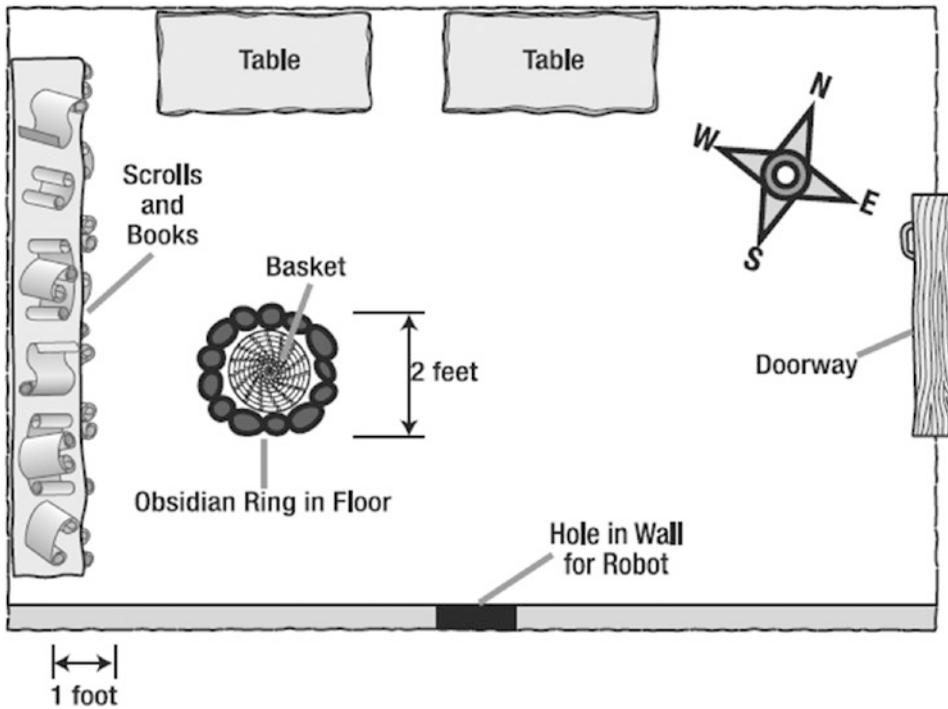
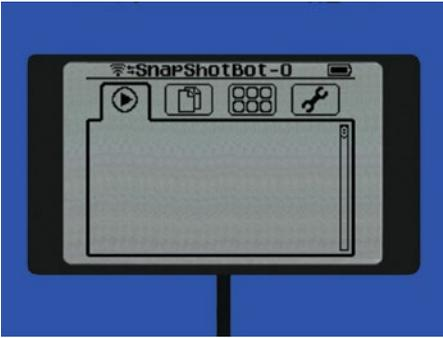
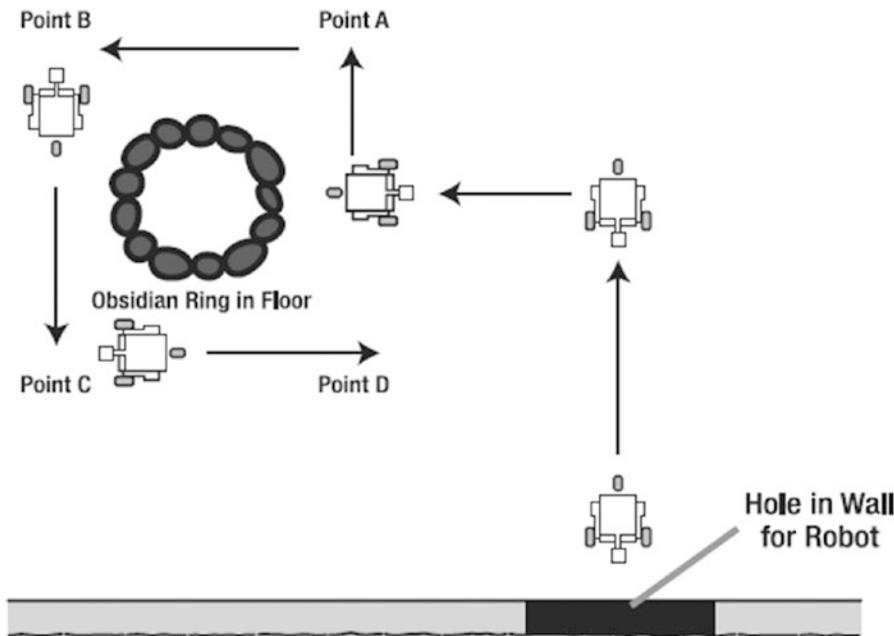

Figure 10-2. *The King's library*
Figure 10-4. The starting screen
Figure 10-8. The SnapShotBot needs to go around the basket
Here’s another test you can do to make certain you’ve caught everything: pretend *you* are the bot! Look at Figure 10-2 for the layout of the library. Place a basket (or some other item) in the center of a room. Now walk through the tasks you need your bot to perform and compare them to your Robot Description. If you’ve missed something, just add it:
The first task is “Move forward to the center of room and stop.” That seems pretty simple, doesn’t it? If you look back to Figure 10-2, you’ll notice that the room is square-shaped and that the distance from the bot’s starting position to the rear wall is 12 feet. Well, the halfway point will be 6 feet, but how do we tell the SnapShotBot to stop at 6 feet?
1. Turn on the Intelligent Brick. The screen might look like Figure 10-4 if there is no program loaded.
Well, we know that the black obsidian ring surrounding the basket is about two feet wide and two feet long (we see this in Figure 10-2). And earlier in the chapter, you found out that the circumference of the wheels is about 5.5 inches. We also know that the bot should be near the center of the ring, so let's figure out how many rotations we need it to make to get safely around the basket.
As shown in Figure 10-4, after the bot turns right, it needs to move only about one foot forward (to Point A). One foot is 12 inches, so we divide that by the circumference of our wheels (that is, $12/5.5$ inches = 2.2 inches). That tells us we should program the bot's motors to spin 2.2 rotations, which should place it close to Point A. On the back of your Design Journal page, copy Figure 10-8 and write down the rotation values you calculate—between the bot and Point A, write **Rotations:** and the number that you calculated.
Task 6 says “Turn left, move forward short distance and stop.” Again, what is a “short distance?” Well, Figure 10-2 tells us the ring is two feet in diameter. So, in Figure 10-8 we can see that the distance from Point A to Point B would be about 4 feet, or 48 inches. Once again, divide 48 inches by the wheel’s 5.5-inch circumference and we get about 8.8 rotations. On your map, write down **Rotations:** and the number calculated for the motors to spin between Point A and Point B.
The first Mindstorm item was mentioned in the previous section: “I’ll angle the camera back a little bit so it can take a better picture of the books and scrolls.” Because the books and scrolls are stacked along the left wall (see Figure 10-2) and the bot is so low to the ground, I’ll angle the camera back and it will be able to take a picture that doesn’t include most of the floor. As stated earlier, if the camera is just facing directly forward, the final picture will contain a large portion of the floor and lower wall. This might be okay for you, so feel free to place your camera any way you like.